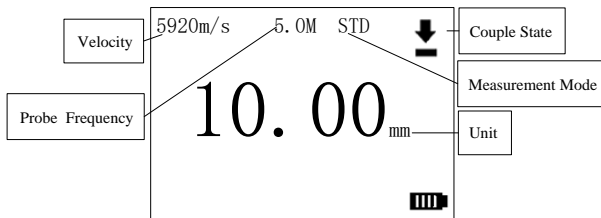

Fig. 2-3: Standard Measurement Interface
- **STEP 2:** Power on the gauge by long pressing **TEST/BACKLIGHT**. The measuring interface will appear in turn (initial setup as shown in Figure 2-3). The gauge will auto-recover the setup from the previous use.
The measured thickness can be displayed in either inches or millimeters. To change from one unit to the other, press **MENU** to enter the main menu, select **UNITS**, press **ENTER**, and select either **MM** or **INCH**. The current units in use are indicated on the right of the standard measurement interface (see Figure 2-3).